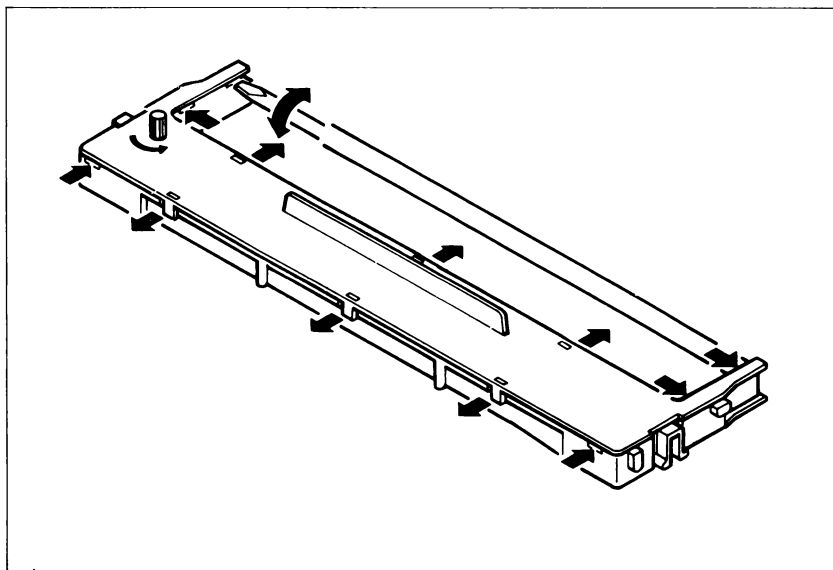

Figure 3-1. Use a screwdriver to pry open the cartridge.
3. Unhook the six tabs of the cartridge cover carefully (Figure 3-1).
4. Using a screwdriver with a thin blade, pry open the cartridge cover. Figure 3-1 shows the numerous slots for inserting a screwdriver.